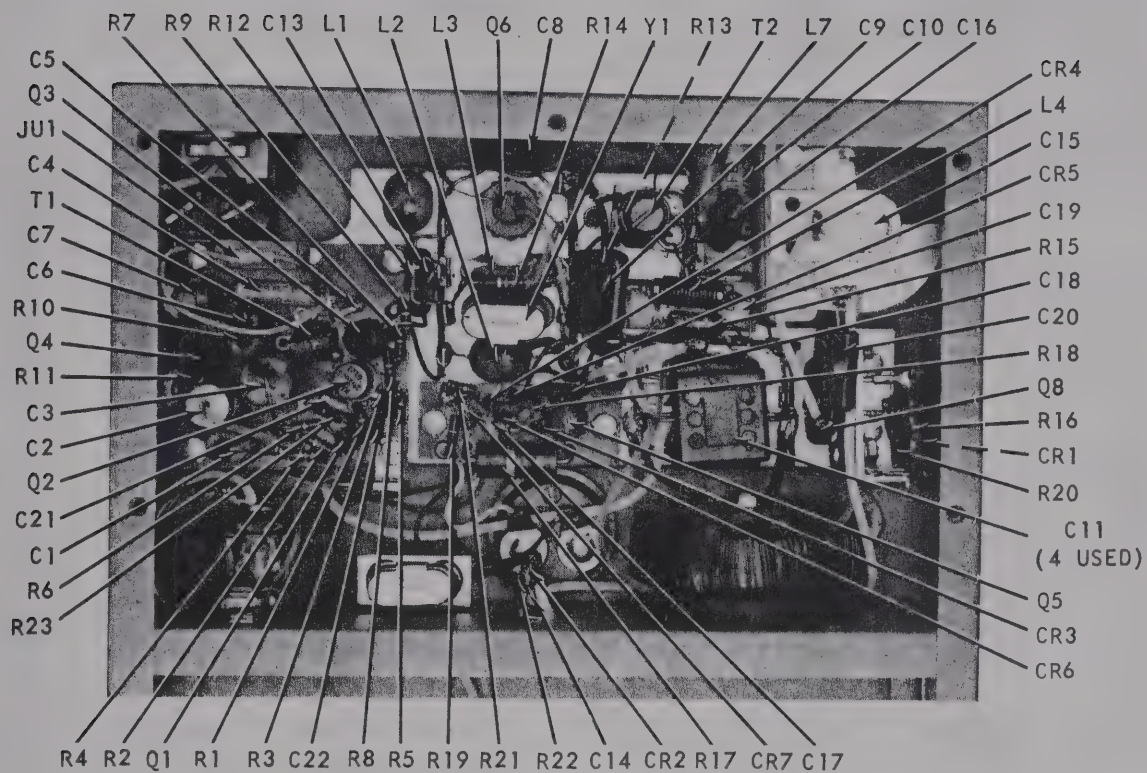

Figure 4. Transmitter, Parts Location
5.2.1 Connect a jumper from the base to the emitter of timer Q1. This disables the tone generator. (Fig. 4)